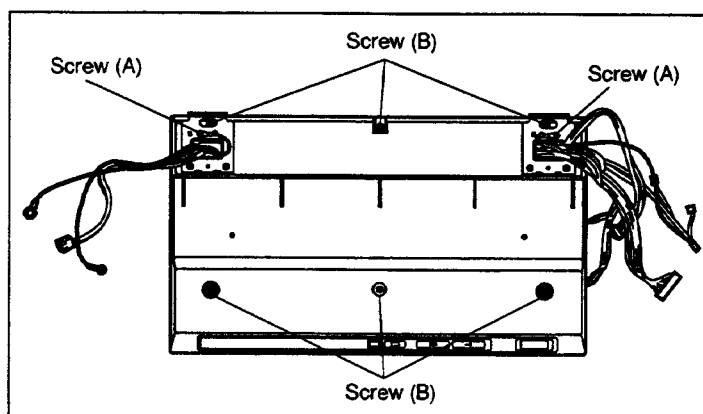

Fig. 5-9
- 1) Remove 2 screws (A) shown in Fig. 5-9, then release the ground lugs.
- 2) Remove 6 screws (B), as shown in Fig. 5-9, and remove the printer upper cover (assembly).